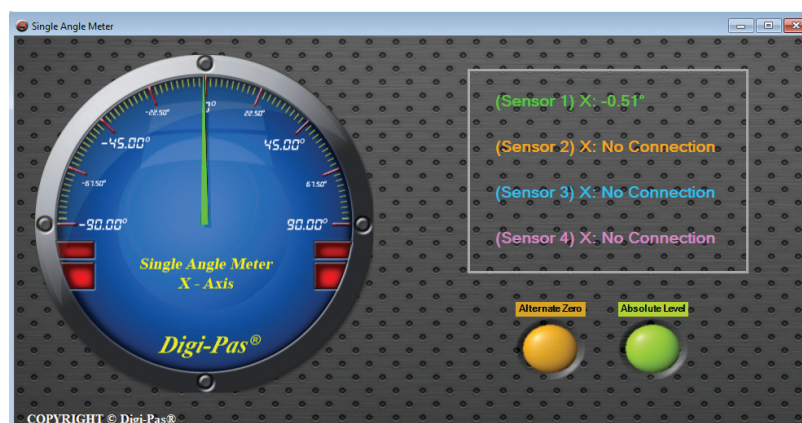

Figure 19. Interface of the PC SYNC software with Single Angle Meter feature
- Screen as illustrated in Figure 19 appears. The feature icons are enabled and ready for selection (e.g. Single Angle Meter, Dual Angle Meter...). Following is an example when Single Angle Meter feature icon is clicked.